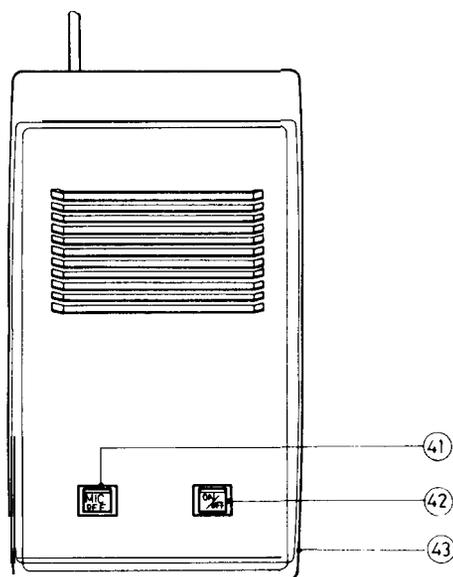

FIG. 4 - HANDSFREE CONSOLE
1.3.2.3 HANDSFREE CONSOLE (Figure 4)